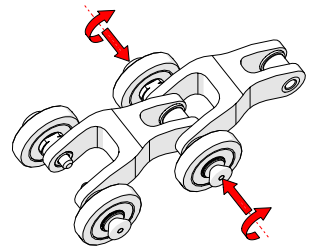

Fig. 26 - Release pins
3. Twist the pins until they unlatch and extend into the hole of the connected component (Fig. 26).